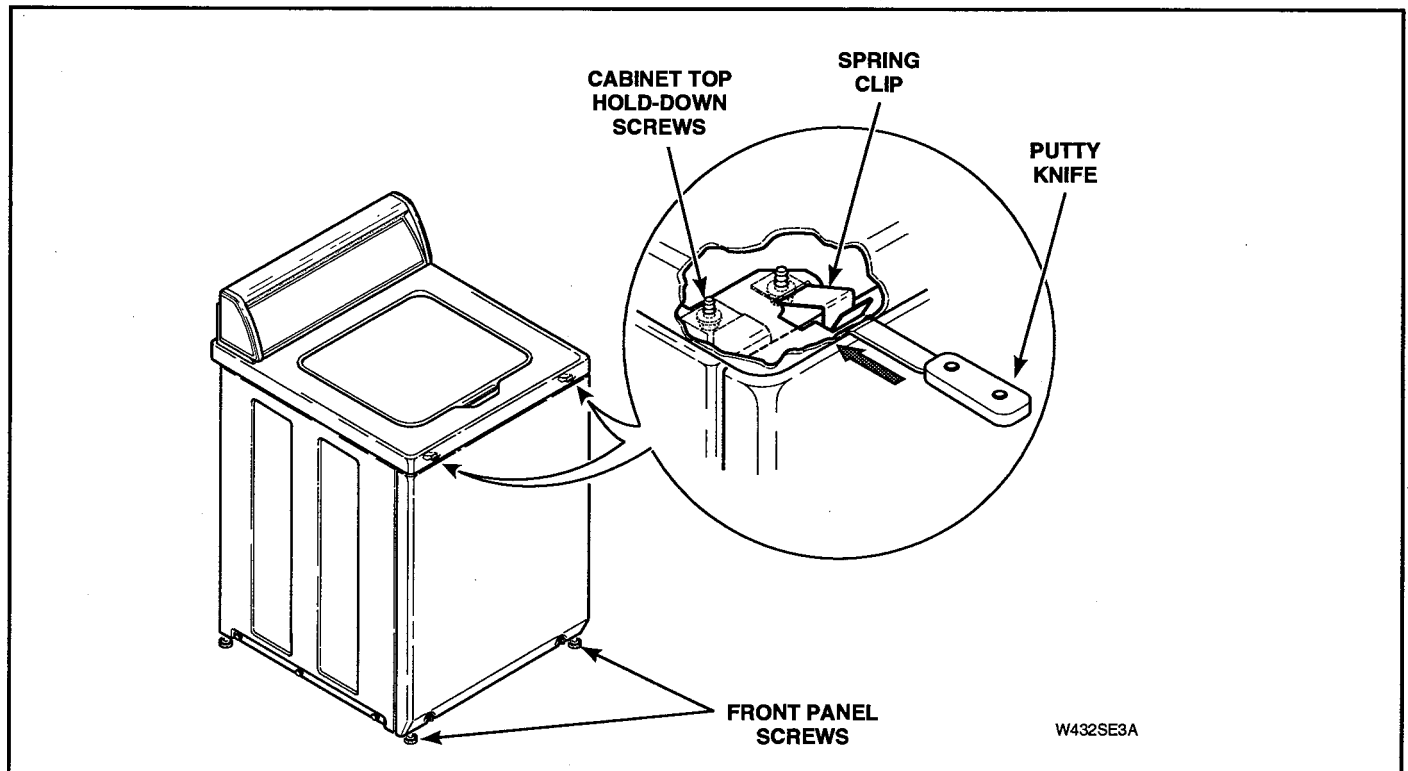

Figure 5-24
**NOTE:** Top edge of front panel is held in place by two spring clips located on bottom flange of cabinet top. See Figure 5-24.
- Insert putty knife between cabinet top and top edge of front panel (approximately three inches in from side). See Figure 5-24.
- Remove two cabinet top hold-down screws. See Figure 5-24.
- a. Insert putty knife between cabinet top and top edge of front panel (approximately three inches in from side). See Figure 5-24.
- d. Remove two cabinet top hold-down screws. See Figure 5-24.